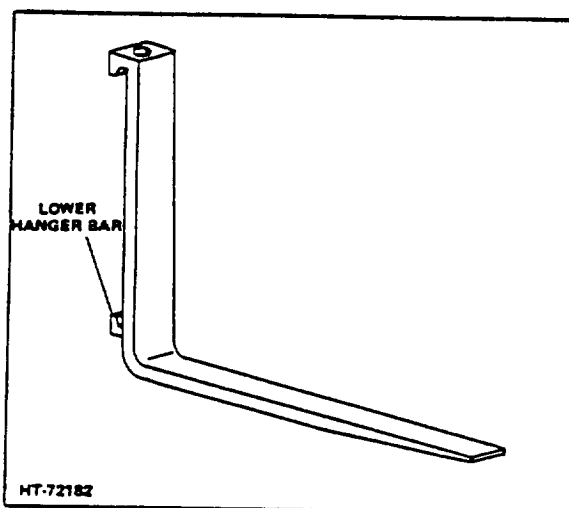

Figure 9. Hook Style Fork
Basically, there are two types of lift forks; the shaft style (Fig 8) which pivots on a horizontal support shaft, and the more commonly used hook style fork (Fig 9) which hooks into notches along the top edge of the fork carriage. The standard or hook type fork will be discussed here. Any differences will be noted in shaft type removal and installation.
3. Tilt the lower portion of the fork forward and up, releasing the lower hanger (Fig 9), from the lower carriage bar.